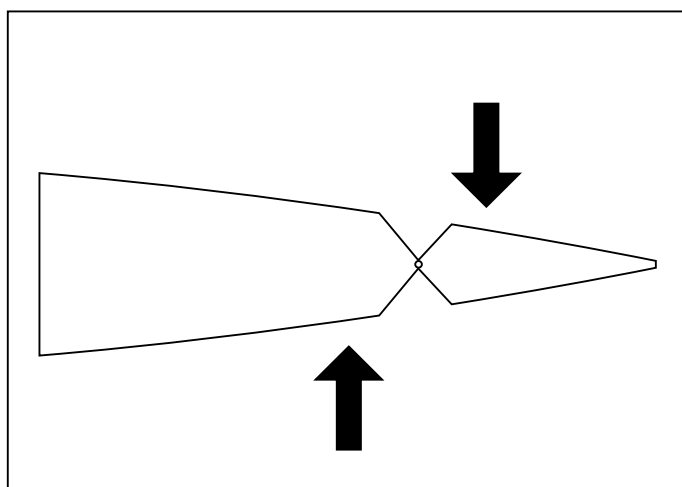

Figure 1 - Test for hinge movement and loose hinges
1. Verify all control surfaces are properly hinged. Pinch a control surface between your thumb and forefinger and stabilize the wing with your other hand. Attempt to move the control surface back and forth perpendicular to the wing (see Figure 1). Watch the hinges for movement. If you find any loose hinges, apply a small amount of medium CA to the mounting point, being sure to keep glue away from the hinge pivot. Wait 15-20 seconds, then apply CA accelerator to cure the CA.